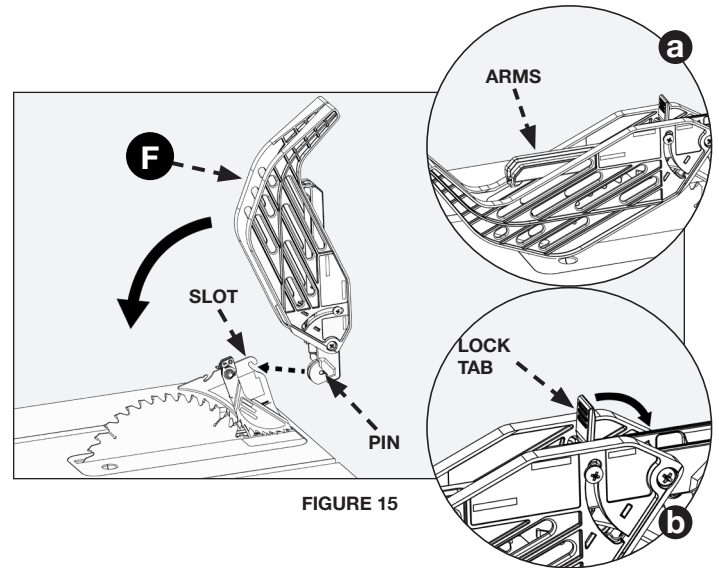

FIGURE 15
While holding the blade guard assembly (F) in a vertical position, as shown in Fig. 15, pull the blade guard assembly pin all the way up into the rear slot on the riving knife.